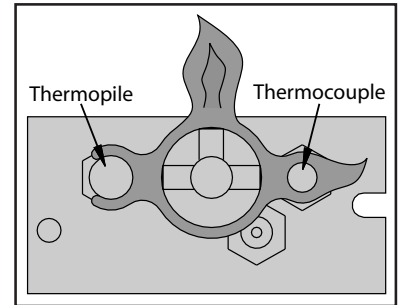

Figure 3: Pilot Flame
1. Turn off the gas to the fireplace. **If not recently done, remove the glass and let the unit air out for at least five (5) minutes to clear out any gas.** Turn on gas to the heater. Leak test all joints with soapy water. **NEVER USE OPEN FLAME FOR LEAK TESTING.**
2. Start the pilot by pressing the gas control knob and turning it to PILOT. While holding the gas control knob in, press the piezo ignitor several times until the pilot light starts. Hold the gas control knob in for 30 seconds. Check that the pilot has fully engulfed the thermocouple assembly (see Figure 3).
***NOTE: This appliance is equipped with an on-demand pilot that, if left dormant, will shut down after seven (7) consecutive days.**